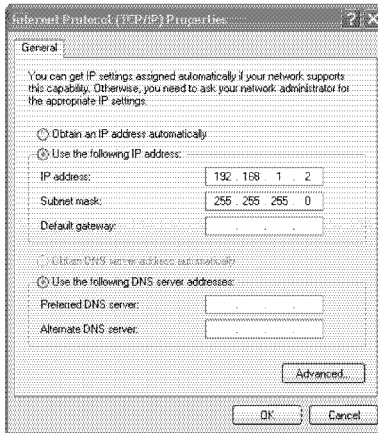

Figure 6: Internet Protocol (TCP/IP) Properties Window
6. Select Use the following IP Address, and fill in the details as shown in *Figure 6*.